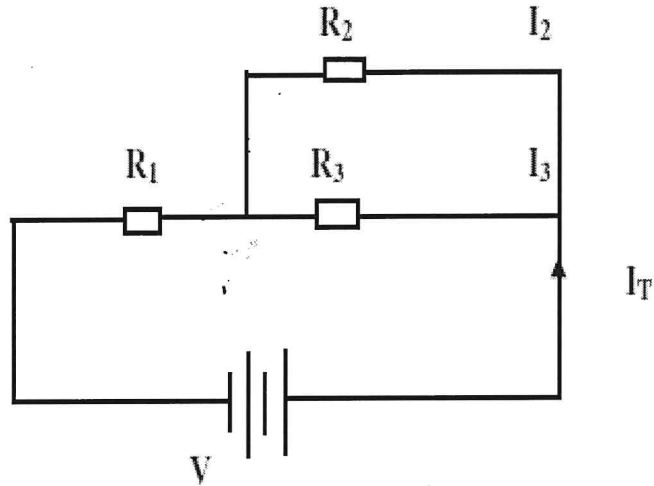

Figure 1 (c) / Rajah 1 (c)
- (c) Referring to **Figure 1 (c)**, a 120V source is connected to the circuit. If $R_1 = 10\Omega$, $R_2 = 20\Omega$, $R_3 = 15\Omega$. Calculate :